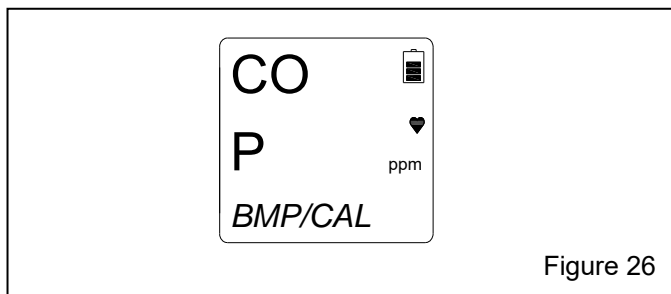

Figure 26
**5.6.9** If the bump test passes, the LCD will display P (passed) and BMP/CAL, as shown in Figure 26. Proceed to Section 5.6.11.